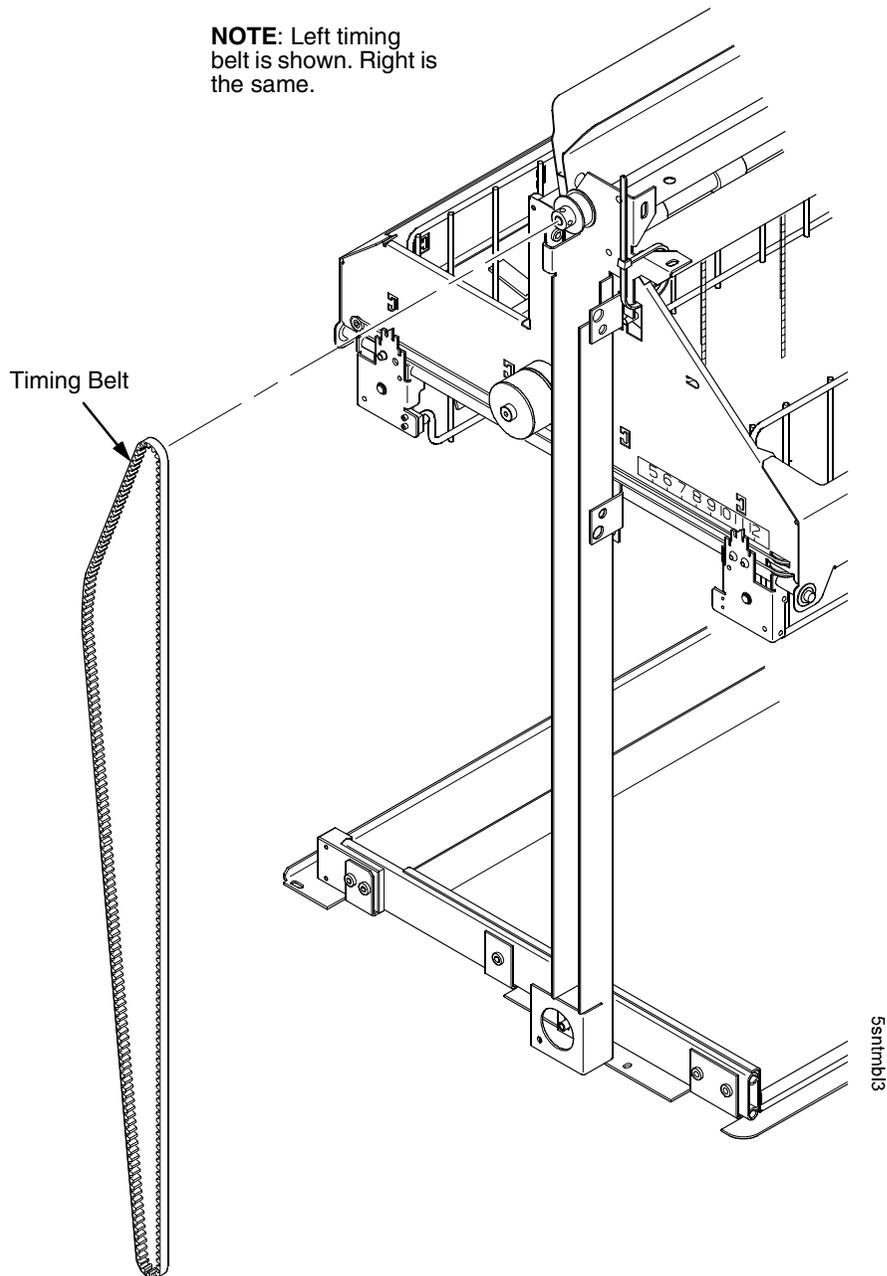

Figure 102. Removing the Timing Belt
8. Remove the timing belt by working it around the vertical rail and constant force spring. (Figure 102.)